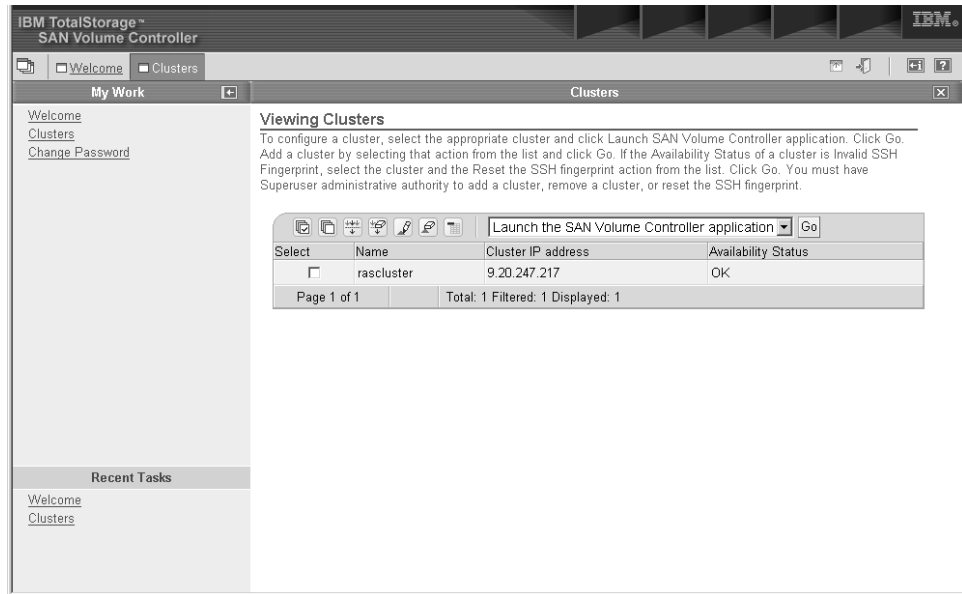

Figure 21. SAN Volume Controller view cluster panel
3. Select **Clusters** from the left navigation menu to access the configuration and service tools that you need, and to see what is displayed in Figure 21 on page 5.